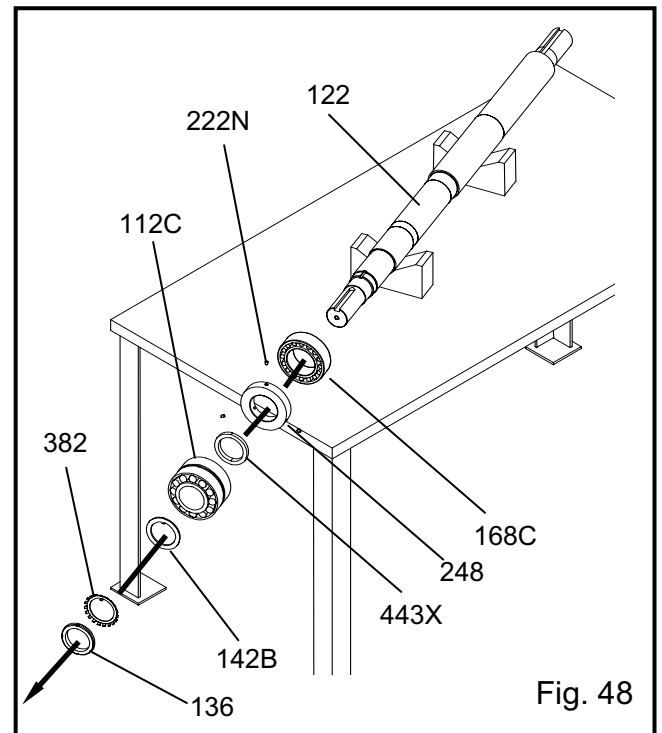

Fig. 48
25. In order to remove the bearings first pry the tangs of the lock-washer (382) from the lock-nut (136). Use a spanner wrench to remove the lock-nut (136) and lockwasher (382). Slide off the keyed washer (142B). This thrust bearing configuration is an indirectly mounted taper roller bearing. Use a bearing puller to remove the thrust bearing (112C). Next, remove the thrust bearing collar (443X) and oil wheel (248). The oil wheel has one to three set screws (222N) that hold it to the shaft (122). The collar and oil wheel must be removed prior to removing the inboard bearing. Finally, use a puller to remove the inboard radial bearing (168C) from the drive end of the shaft. Be careful not to damage the shaft, see Fig. 48.